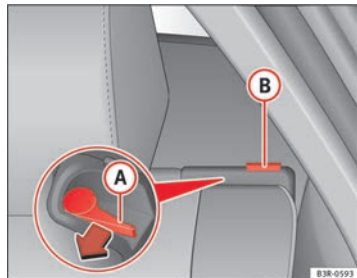

Fig. 118 Backrest release lever
- Press the release lever (A) ⇒ fig. 118 in the direction indicated by the arrow.